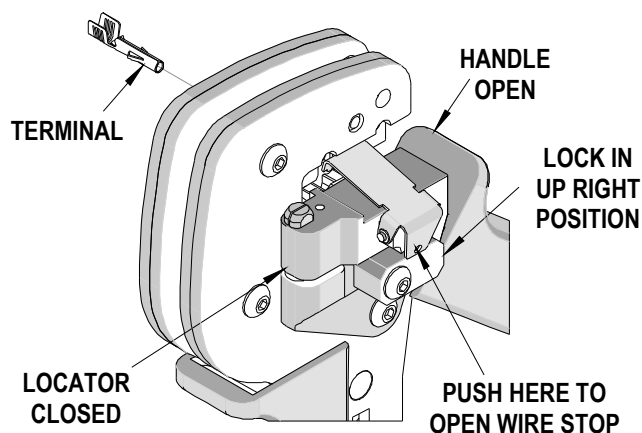

Figure 3
1. To raise the wire stop, press the tab on the wire stop as shown in Figure 3. Insert the proper terminal into the nest opening and release the wire stop to lower it. Make sure when choosing the nest opening, it will correspond with the A or B profile on the hand tool.